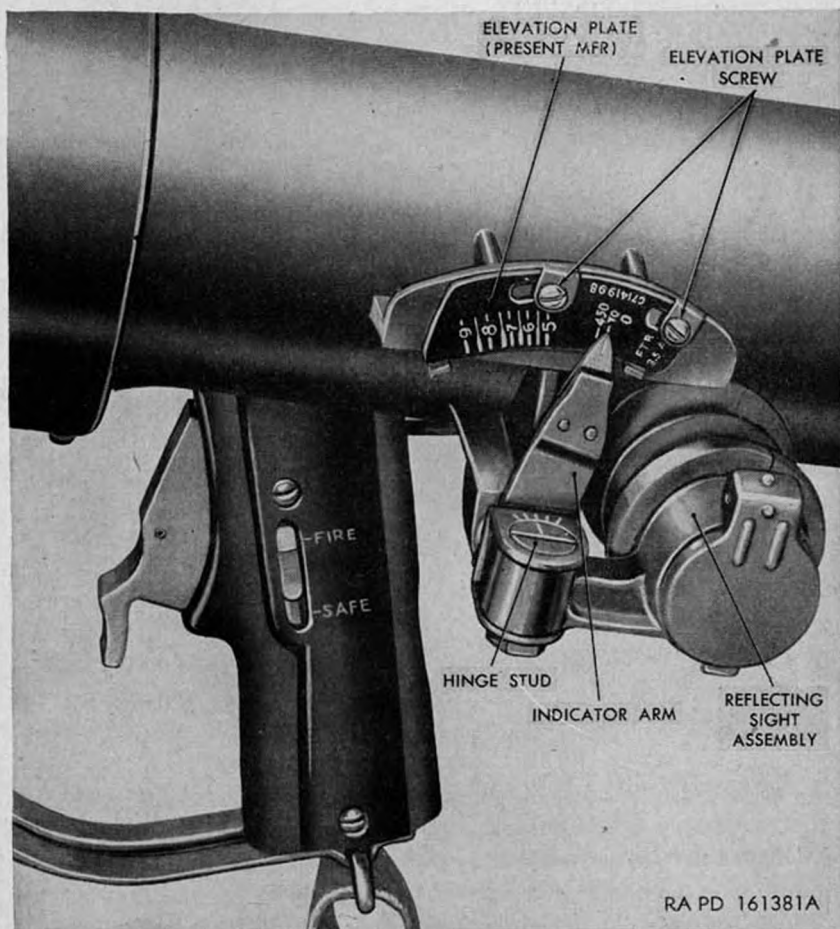
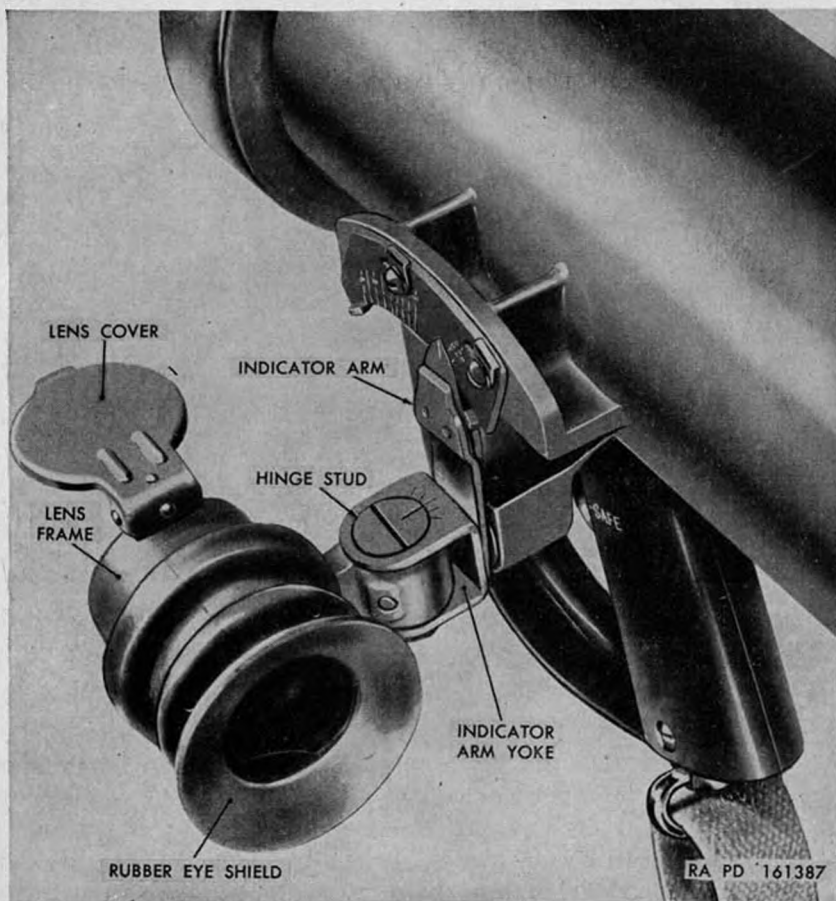

Figure 15. Reflecting sight assembly 7141999 (in folded position) with elevation plate 7141998.
Figure 18. Reflecting sight assembly 7141999 (in firing position).
Launchers of early manufacture were equipped with either reflecting sight assembly 7313440 or reflecting sight assembly 7162890 containing the concentric ring and oval type reticle patterns respectively (fig. 32) and elevation plate 7138366. MWO ORD B42-W1 authorizes the replacement of these components with reflecting sight assembly 7141999 and elevation plate 7141998 (figs. 15 and 17).
- (3) To set the sight for a specific range, move the indicator arm to the position on the elevation plate corresponding to the desired range. For example: if the range is estimated to be 600 yards, set the indicator arm pointer at "6" on the elevation plate. When sighting on target less than 500 yards distant, the elevation should be set at "0."
d. *Graduations on Indicator Arm Yoke.* The reflecting sight lens frame (fig. 18) is secured to the indicator arm yoke by a hinge stud, which permits the sight to be folded back out of the way against the launcher rear barrel when not in use (fig. 15) or to be swung out into the firing position (fig. 23) for use in firing. The head of the hinge stud (fig. 15) is engraved with an index. This index is set against an adjacent scale on the indicator arm yoke when setting the sight in azimuth during bore sighting (par. 44c). The five graduations on the indicator arm yoke are for reference only.
- (1) The sight is unfolded from its carrying position by pulling it out and away from the barrel. This causes it to pivot on the sight hinge stud in the yoke of the indicator arm. It is swung out until the locking ball in the sight hinge
stud engages and holds the sight in its sighting position (fig. 18).
- (2) After use, the sight is swung back out of the way (for carrying) by pushing it back against the barrel (par. 27c) until the locking ball snaps and secures the sight in carrying position (fig. 15).
d. Sighting. Open the lens cover (fig. 18) and rotate the sight into firing (sighting) position.